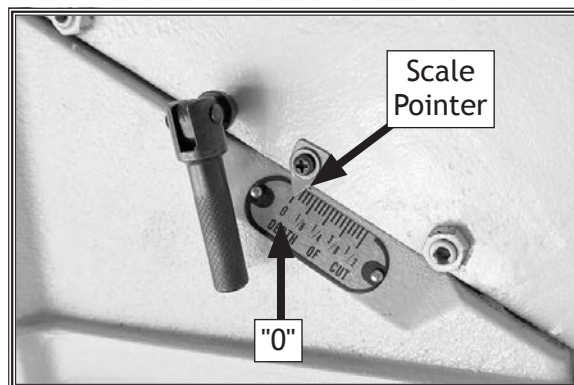

Figure 63. Depth-of-cut scale set to "0".
5. Loosen Phillips head screw, adjust scale pointer to "0," then re-tighten screw (see **Figure 63**).